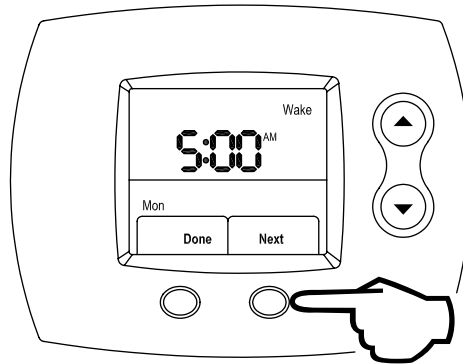

Figure 79
Step 5: Press the **RIGHT** (Next) button to lock the Wake period start time for the day selected, as shown in Figure 79.